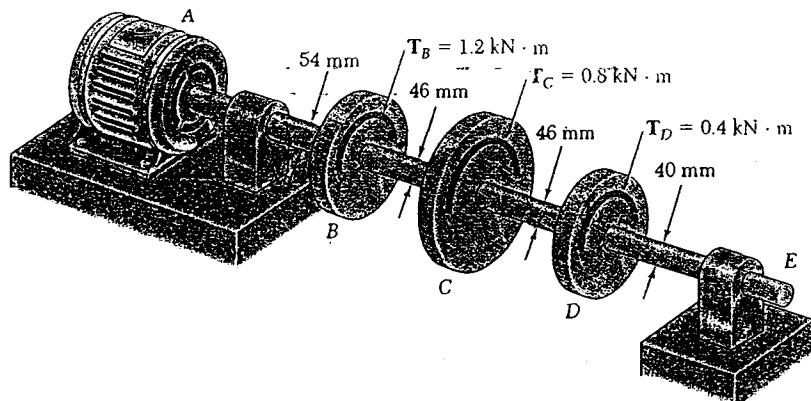

Figure 2: Shaft / Rajah 2: Aci
- [b] Under normal operating conditions, the electric motor exerts a torque of 2.4 kN·m on shaft AB (see Figure 2). Knowing that each shaft is solid, determine the maximum shearing stress: